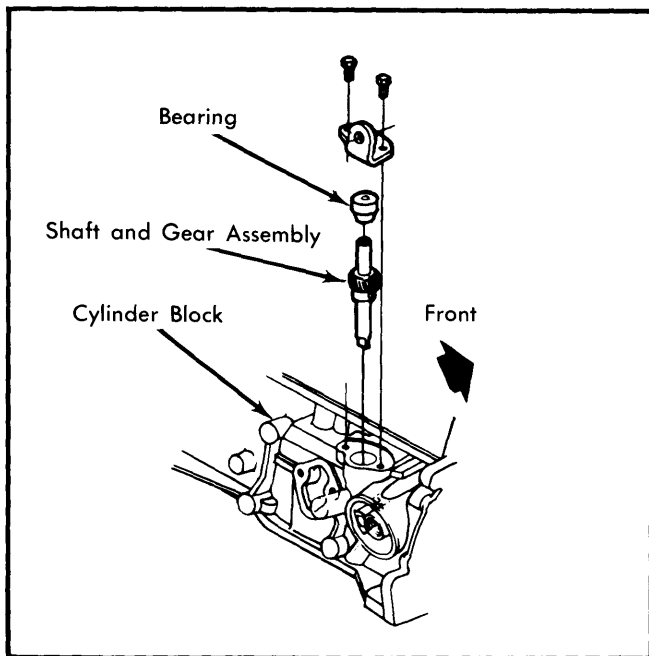

Fig. 7 Removing Oil Pump Drive Shaft
2) Remove distributor, fuel pump, and oil pump drive shaft. See Fig. 7. Remove front pulley and timing gear cover.